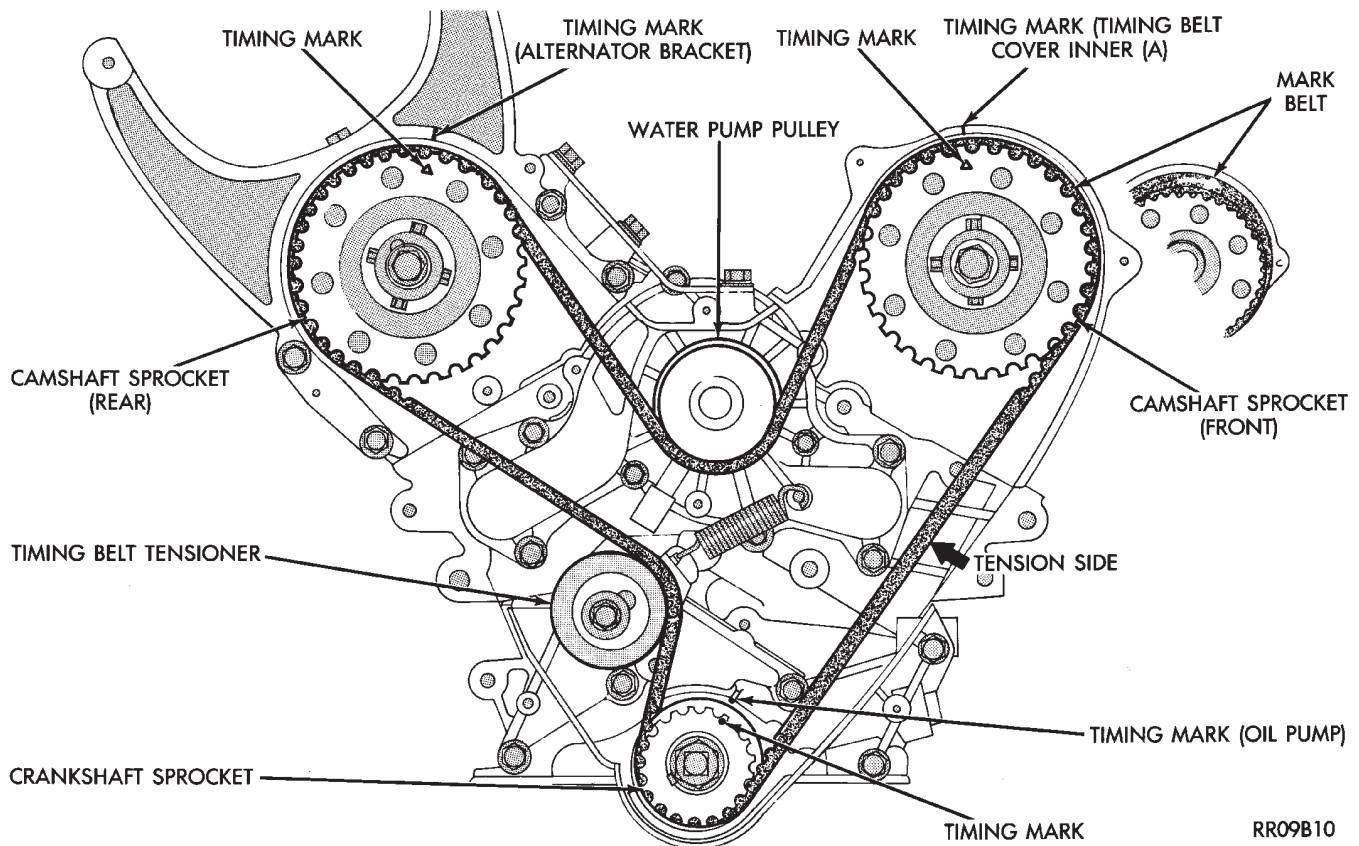

Fig. 14 Timing Belt EEngine Sprocket Timing
- (1) Mark belt running direction for installation (Fig. 14).
(1) Install timing belt on crankshaft sprocket first and while keeping belt tight on tension side (Fig. 14) install belt on the front (radiator side) camshaft sprocket.
(2) Then, install on the water pump pulley and on
(3) Apply rotating force to the front camshaft sprocket in opposite direction to tension the belt tension side and check that all timing marks are lined up (Fig. 14).